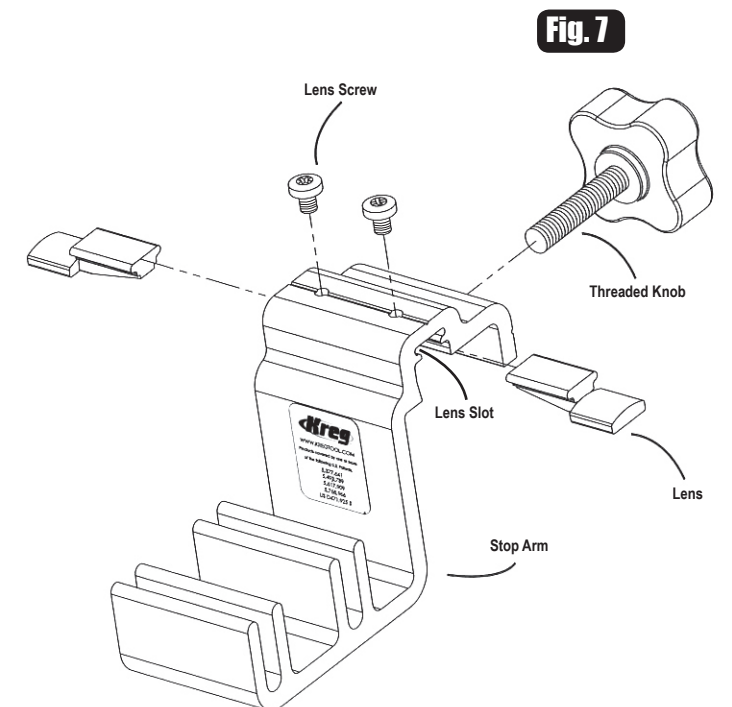

Fig. 7
1. Referring to Figure 7, screw the threaded knob into the back of the stop arm. With the 24" board in place against the saw blade and fence, place the stop arm on top of the Trak and position it against the end of the board. Tighten the knob so the beveled inside surface of the stop arm seats against the beveled front edge of the Trak.